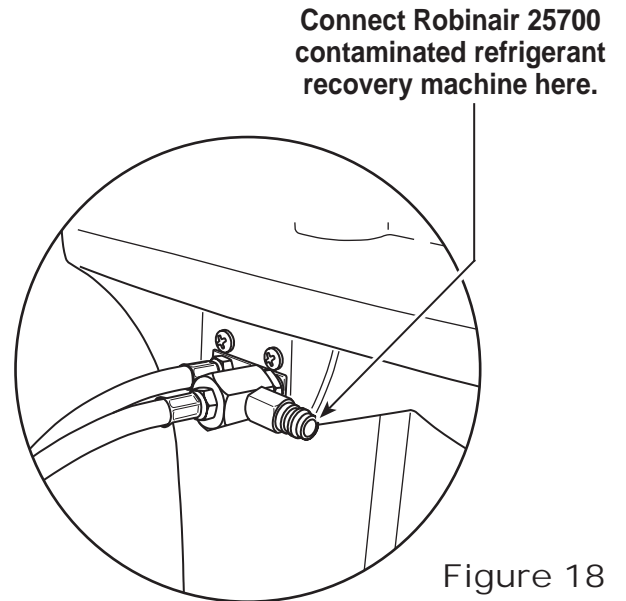

Figure 18
1. With the machine still connected to the vehicle and the couplers open, connect the low-side (blue) coupler from the 25700 to the contaminant recovery port on the back of the machine. See Figure 18. Open the coupler valves.